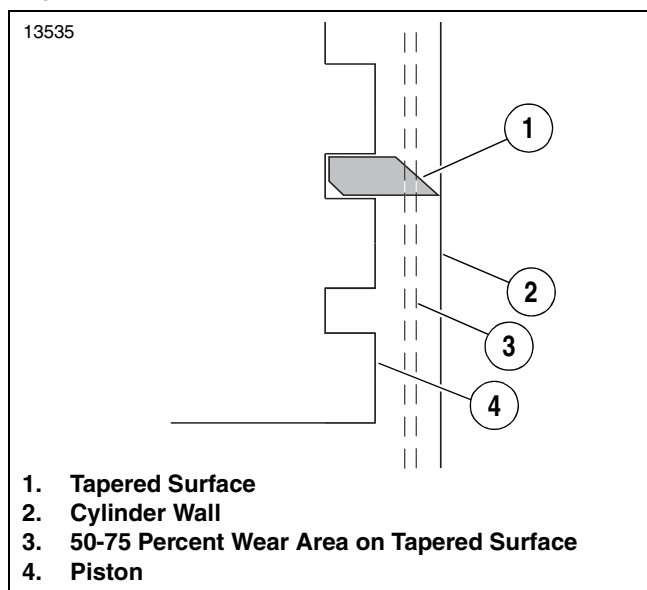

Figure 1. Piston Ring Wear Area
See Figure 1. Check the tapered surface (1) of the second piston ring (compression/oil control ring) for wear. The lower edge of the tapered surface normally wears down with use. If 50-75 percent (3) of the taper is worn away, all the piston rings on the piston must be replaced.